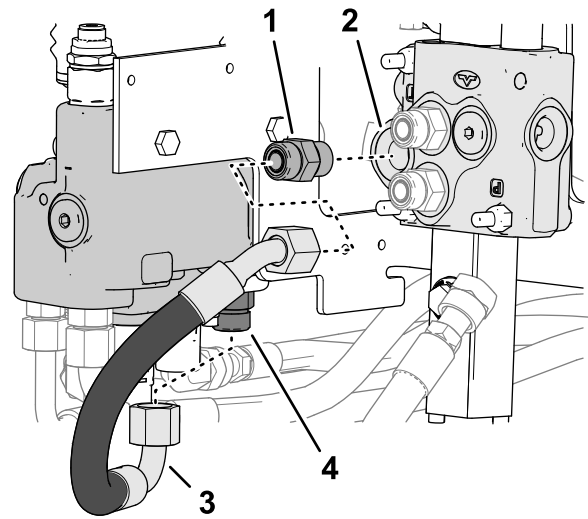

Figure 10
1. Remove the remaining hose from the port-T fitting in the auxiliary valve and the port-T fitting in the loader-arm valve. (Figure 10).